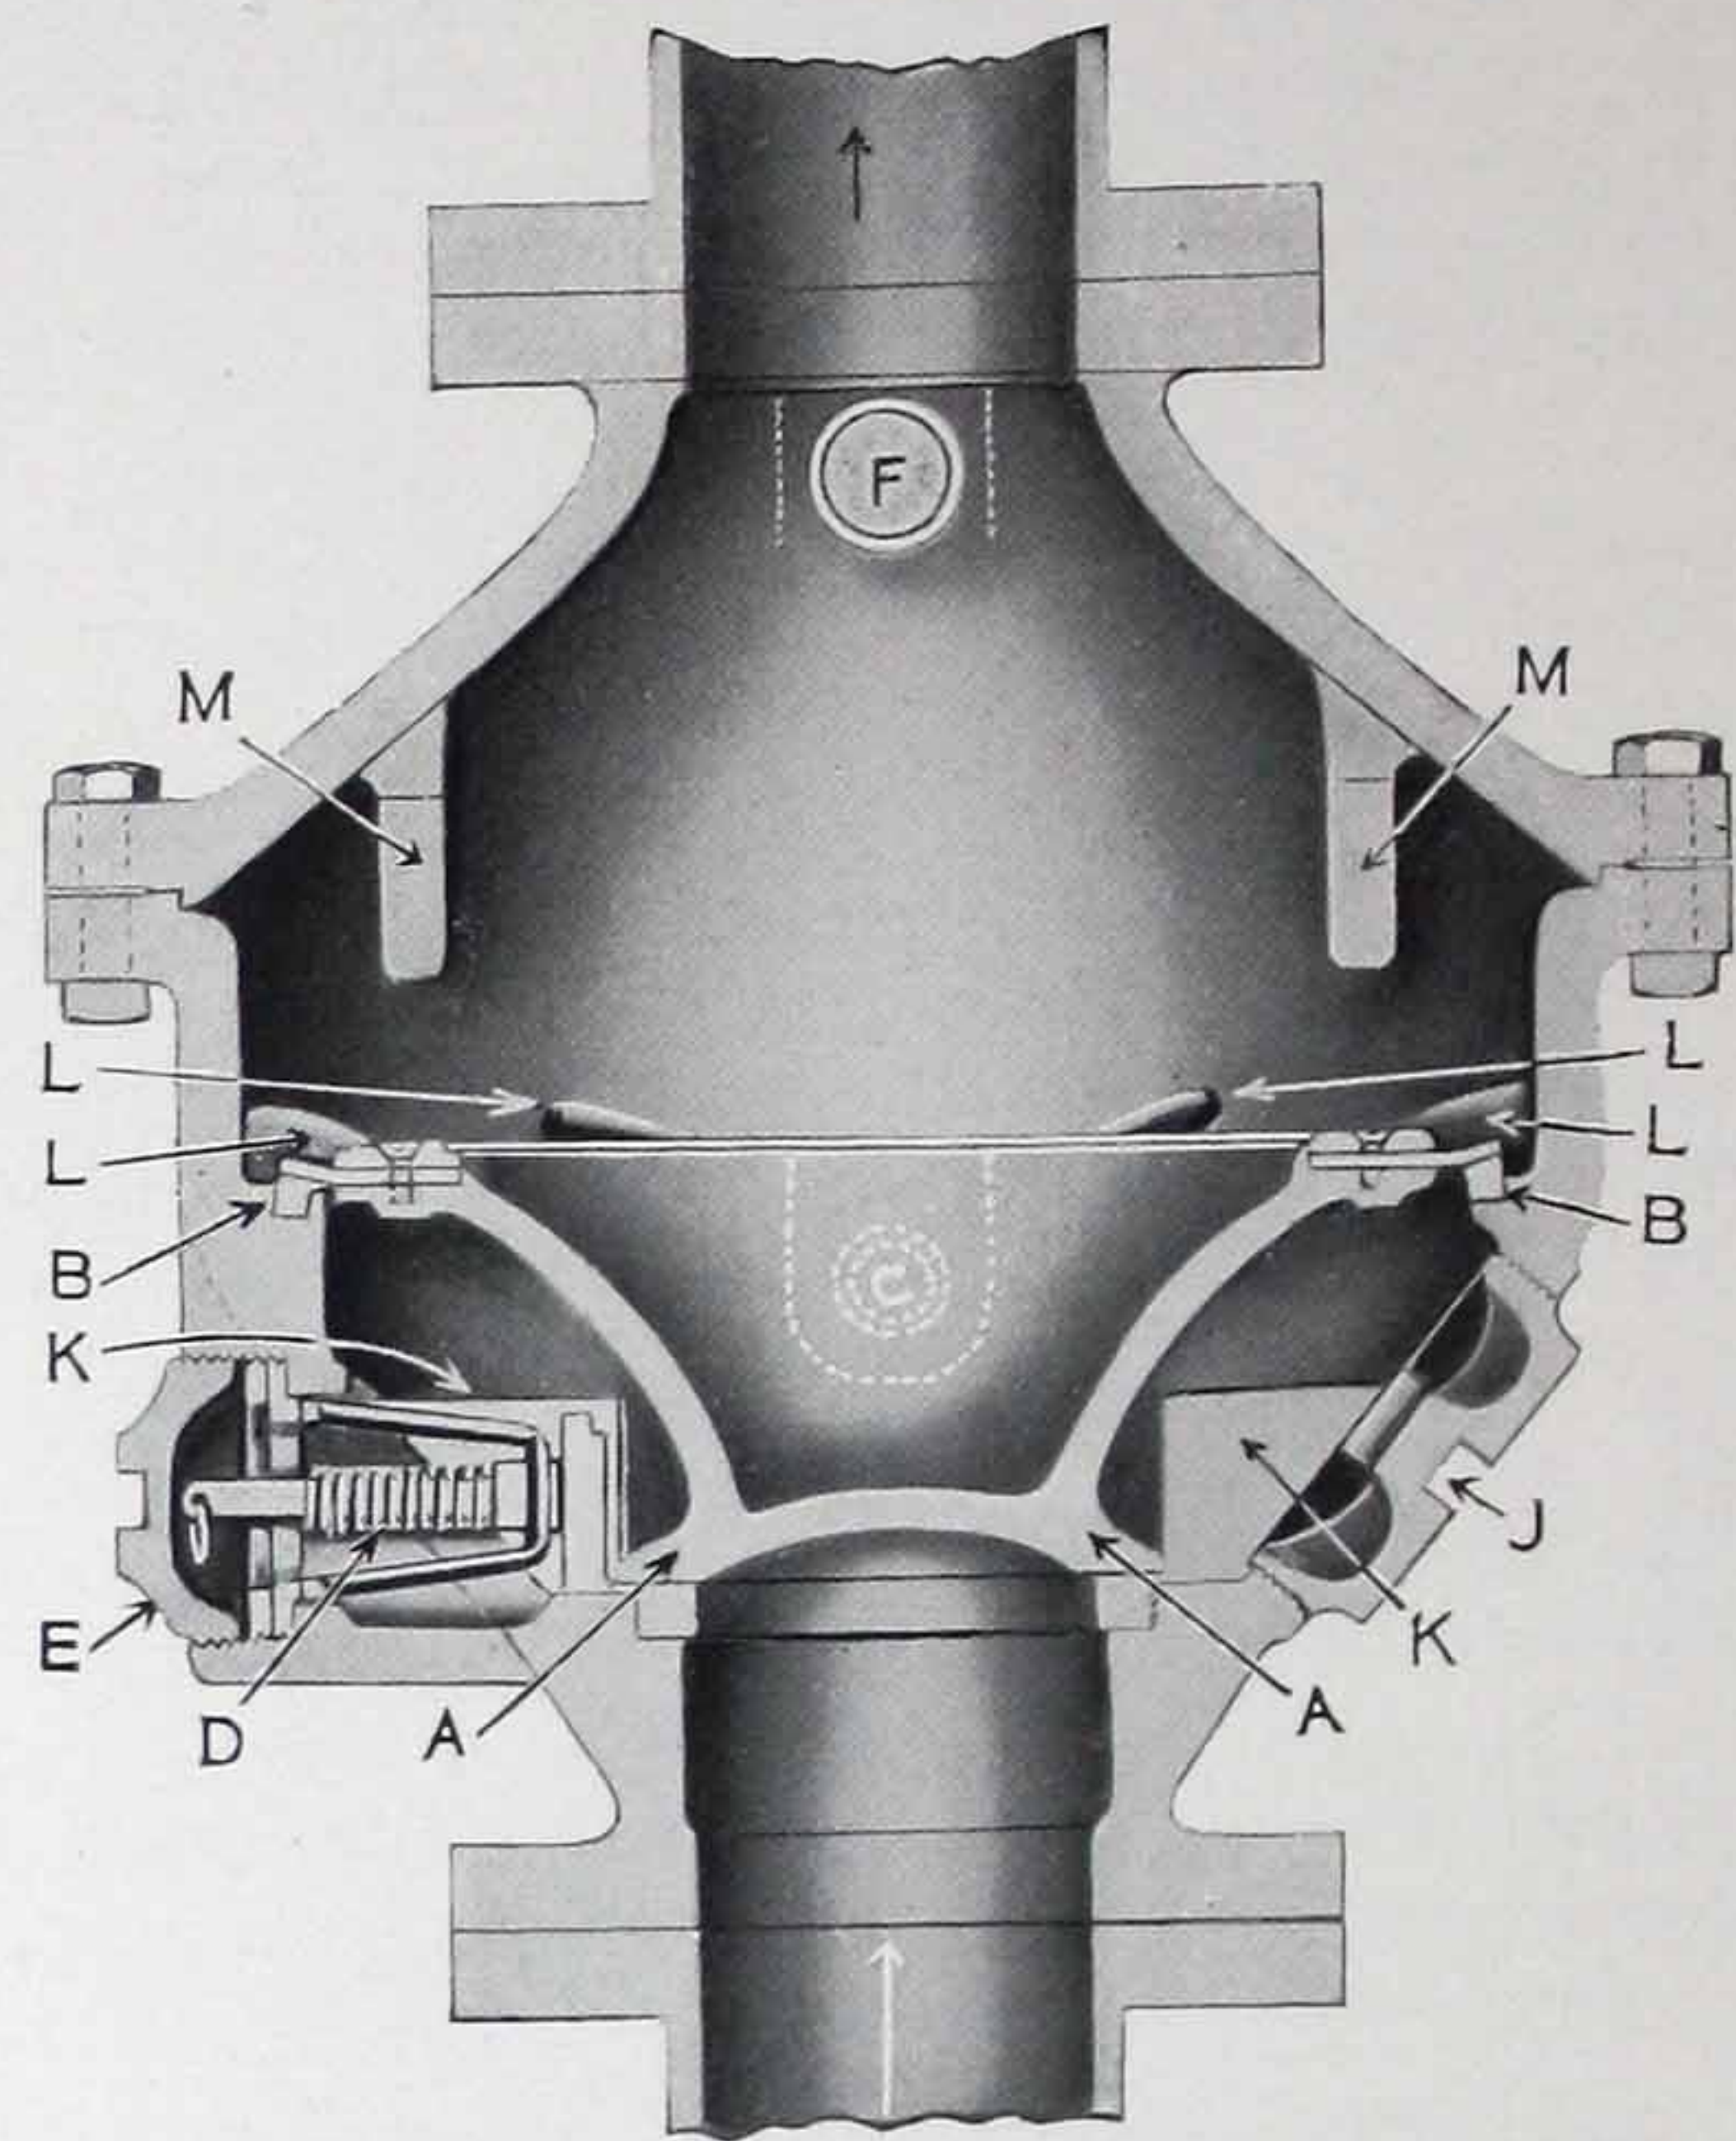

Fig. 2
- A—(Fig. 2) Water Valve which closes the water inlet.
- B—(Fig. 2) Air Valve, consisting of a Rubber Diaphragm on a block tin Seat.
- D—(Fig. 2) Latch which prevents Valve A from closing by its own weight, or by water column in the sprinkler pipes after it has once opened.
- KK—(Fig. 2) Guides for Valve A.
- LLLL—(Fig. 2) Guides for Valve B.
- MM—(Fig. 2) Stops to limit the upward movement of Valve A.
Never Apply Grease, Tallow or Any Oily Substance to the Valve Seats A or B, Figure 2
When the Valves have thus been cleaned, the main Gate Valve should be opened a trifle so that water can come up to the level of Valve Seat "A," Figure 2. When this has been done, the main Gate Valve should again be closed, after which the Valves "A" and "B" are closed by disengaging the Latch "D," care being taken to see that the Valve "A" is let down easily onto its seat, so that it will not be injured.